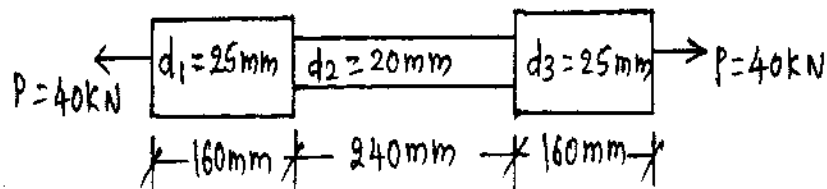

Fig. Q2(b)
- Young's modulus (E)
- b. The bar shown in Fig. Q2(b) is subjected to axial tensile force of 40 kN the total extension of the bar is 0.285 mm. Determine the young's modulus of the material. (12 Marks)